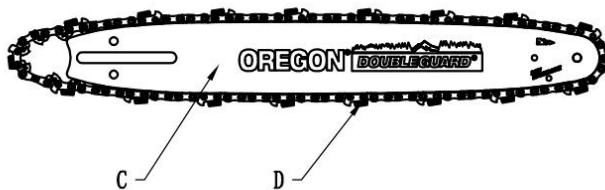

Fig 6
3. Assemble the chain (D) and guide bar (C) as shown in Fig 6. (Ensure cutters are pointing in the right direction.)